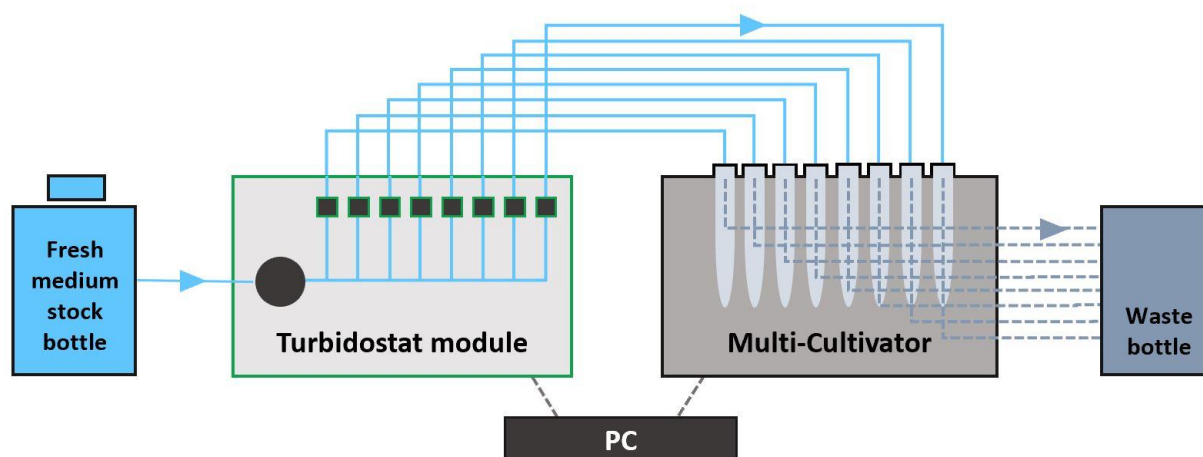

Fig. 1 Schematic diagram of Turbidostat module TS 1100 coupled with the Multi-Cultivator MC 1000.
The Turbidostat module TS 1100 enables to run a continuous cultivation in the Multi-Cultivator MC 1000. In the basic setup, the Multi-Cultivator's optical sensing unit monitors the optical density (OD) of the biomass and depending on the actual value, the Turbidostat module adds fresh medium to maintain a preset OD level. Each cultivation vessel can be controlled separately. The fresh medium is delivered by a peristaltic pump at a controlled flow rate through 8 independent pinch valves. Fig. 1 shows a schematic diagram of the Turbidostat module setup with the cultivation system.